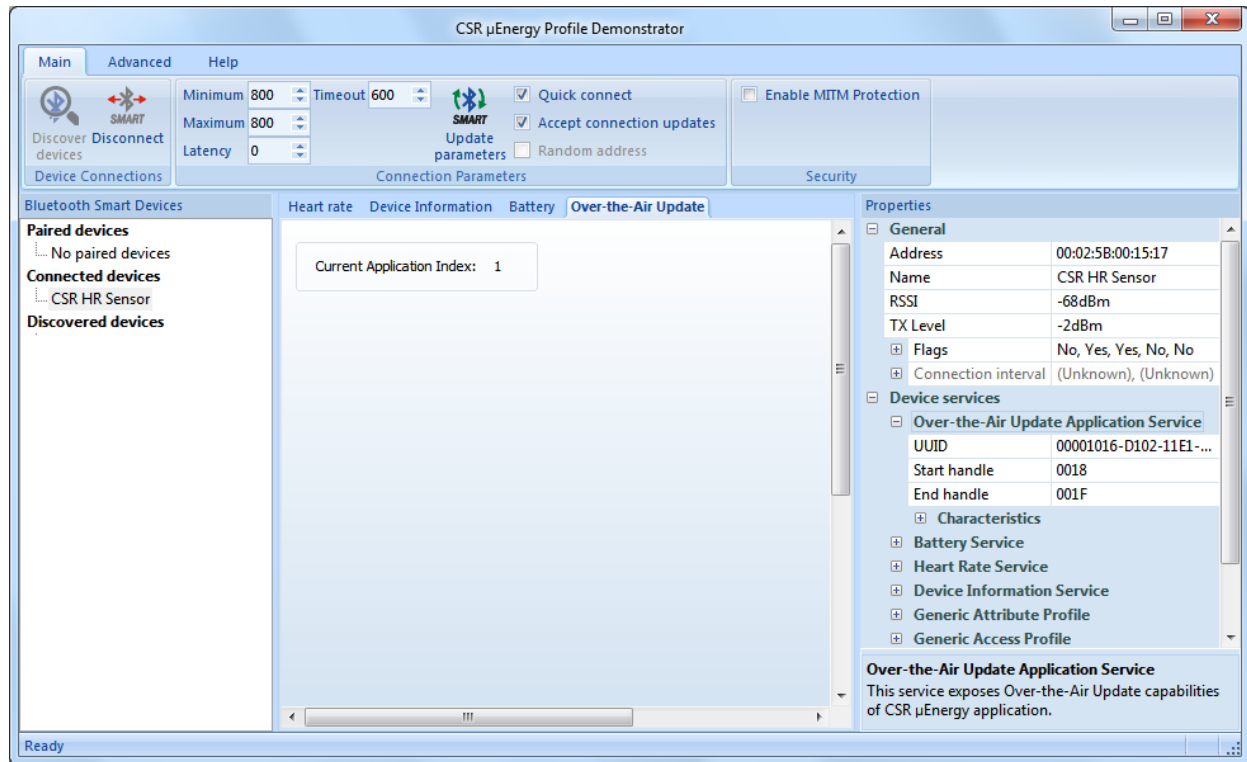

Figure 2.10: Over-the-Air Update Service Tab
7. If CSR OTA Update Application Service is supported by the application, the **Over-the-Air Update** service tab displays the current application index, see Figure 2.10.